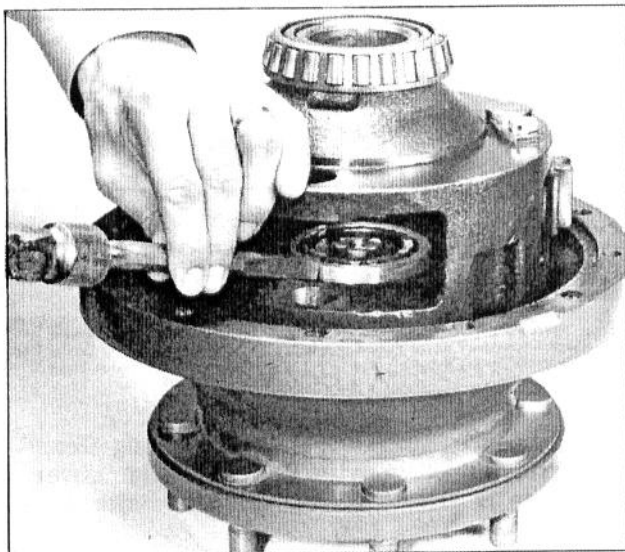

Fig. 42 - Retaining Ring Removal
4. Remove the shrunk-on ring with a chisel, as shown in Fig. 42.